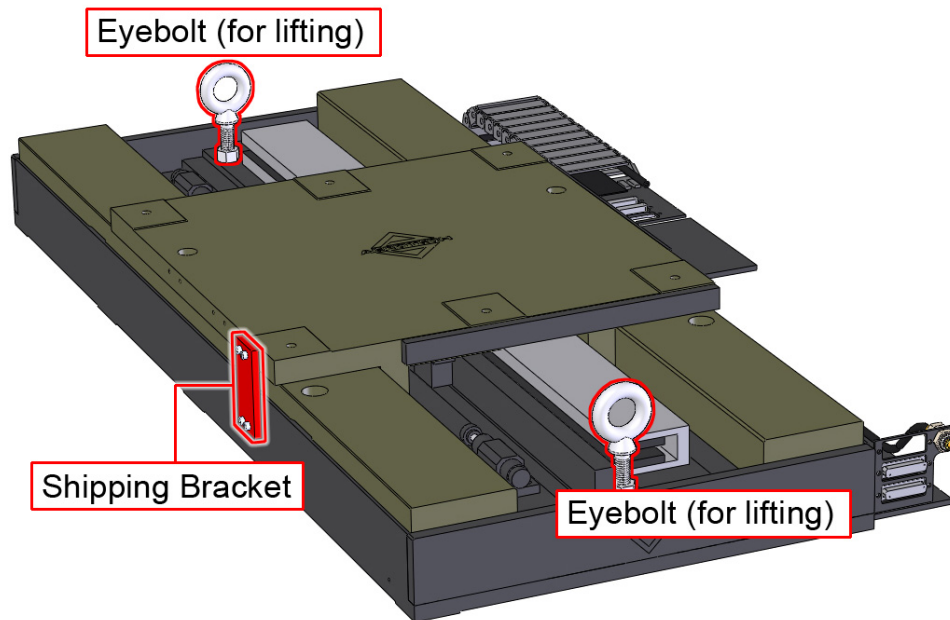

Figure 2-1: Lifting Features
4. Remove the lifting brackets and shipping bracket (Figure 2-1)